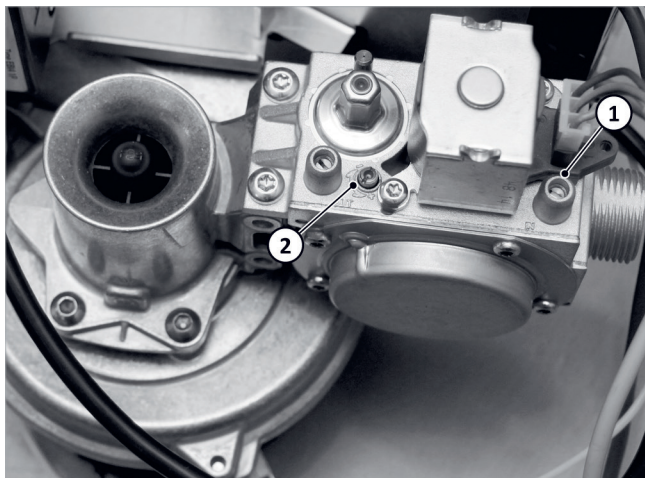

Fig. 103: Setting the burner
- The measurement connection is used to check the gas' flow pressure when the burner is in operation → fig. 103 (1).